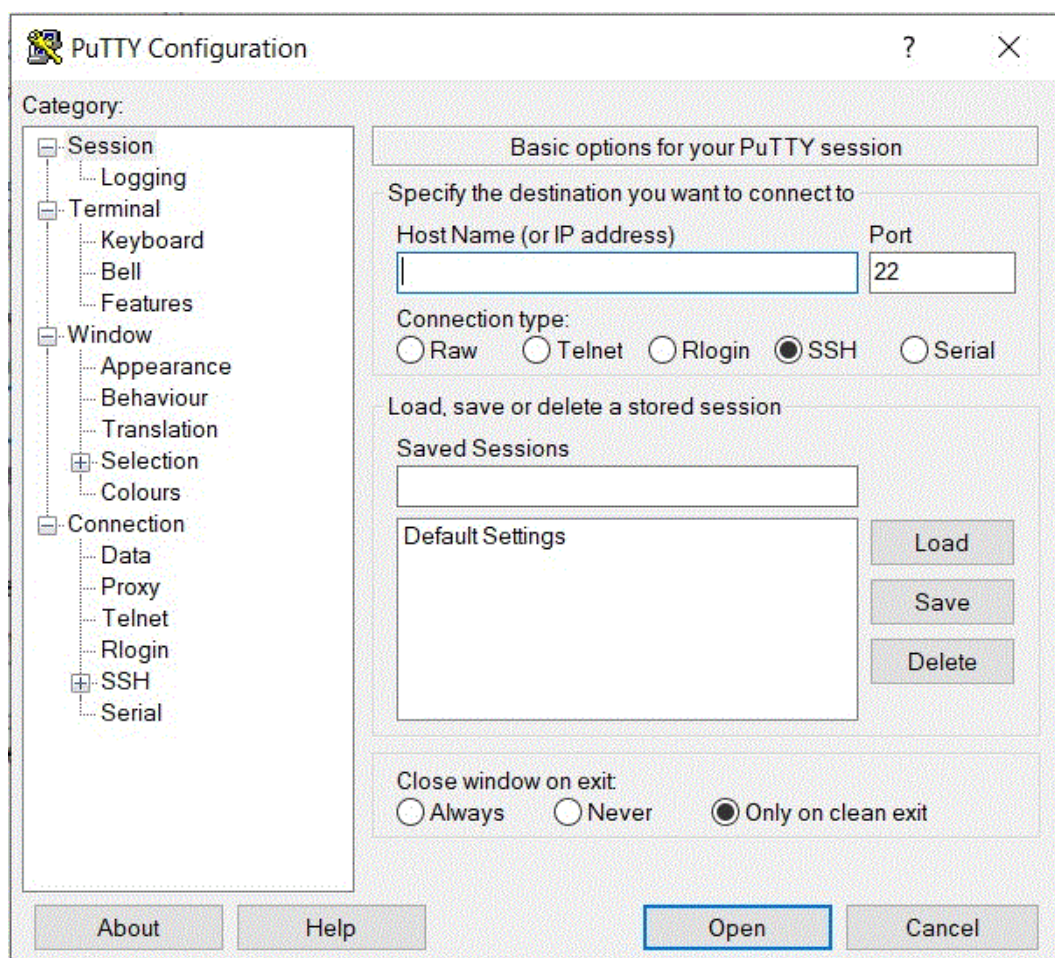

Figure B-8 PuTTY Configuration
1. Start PuTTY. The PuTTY Configuration window opens (see Figure B-8).